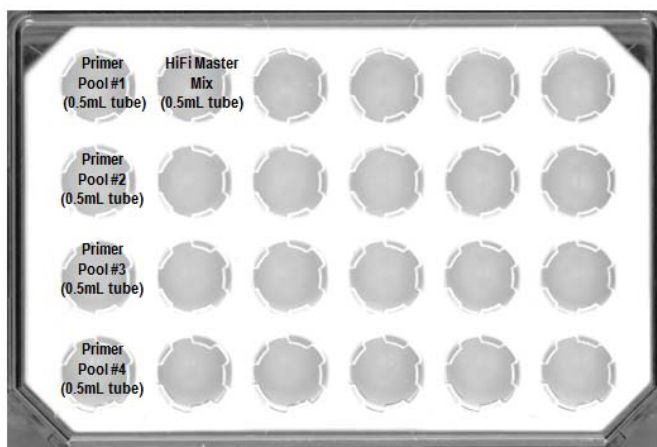

Figure 10: Well Map of the Eppendorf IsoRack with Primer Pools and HiFi Master Mix for the Amplification of Targets step.
- c. Make sure the HiFi Master Mix and primer pool(s) are in the IsoRack chilling block according to the diagram in Figure 10.